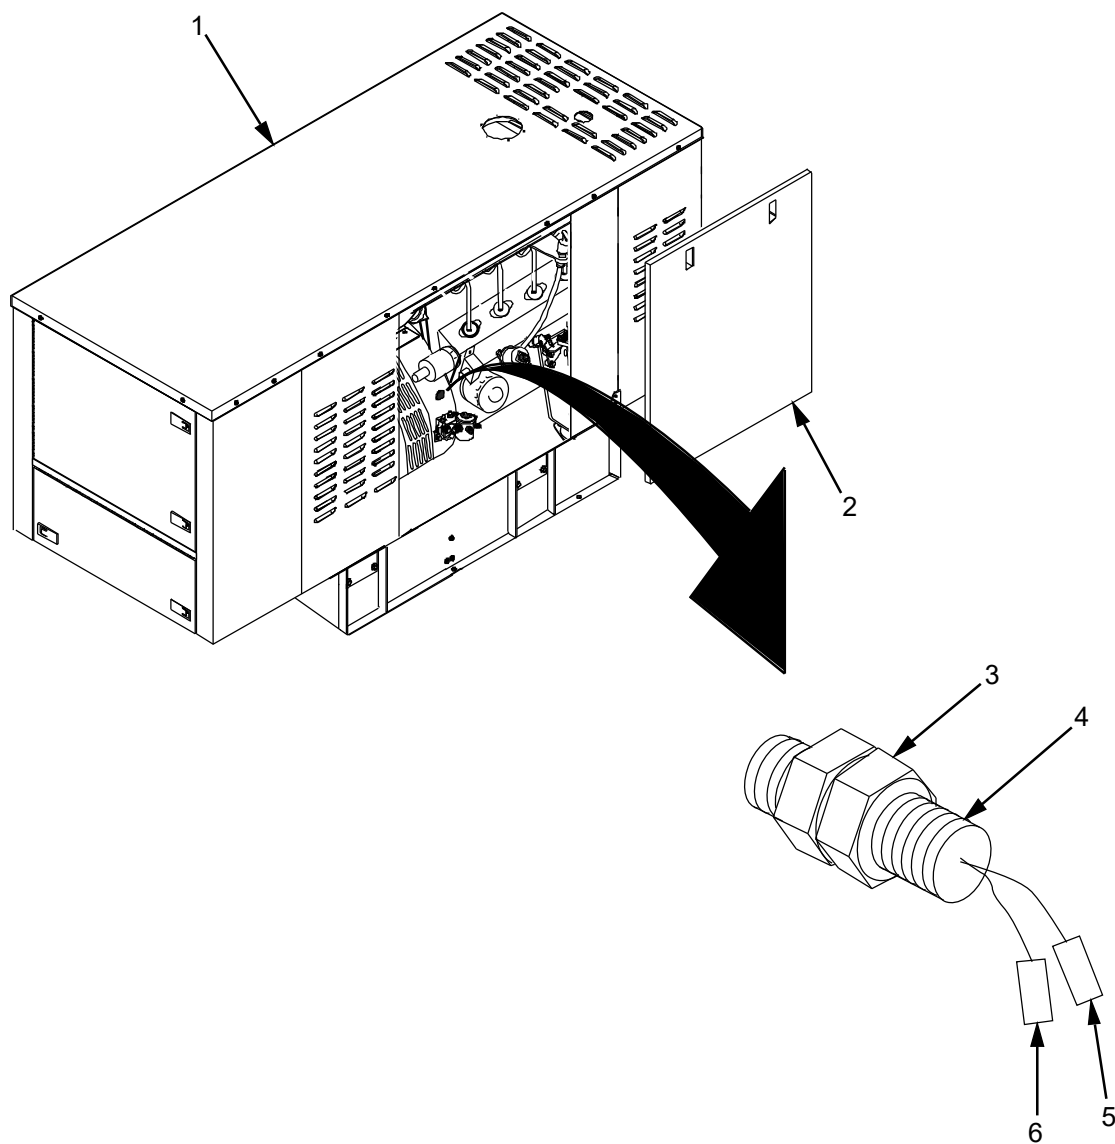

Figure 1. Diesel Speed Sensor Removal/Replacement.
Do not get anti-seize compound on ends of diesel speed sensor (Figure 1, Item 4).
2. Apply anti-seize compound to threads of diesel speed sensor (Figure 1, Item 4).
When the following step is being performed, diesel speed sensor (Figure 1, Item 4) should screw in without resistance. Do not force diesel speed sensor (Figure 1, Item 4) or cross thread. Failure to observe this caution can result in damage to the engine.
3. Install diesel speed sensor (Figure 1, Item 4). Tighten until diesel speed sensor (Figure 1, Item 4) bottoms out.
Failure to back diesel speed sensor (Figure 1, Item 4) off 1/4 turn can result in magnetic pickup on diesel speed sensor (Figure 1, Item 4) striking the fly wheel and becoming damaged thus making it unserviceable.
Backing diesel speed sensor (Figure 1, Item 4) off more than 1/4 turn can prevent magnetic pickup on diesel speed sensor (Figure 1, Item 4) from detecting the rotation of the fly wheel.
4. Turn diesel speed sensor (Figure 1, Item 4) back counter clockwise 1/4 turn.
5. Tighten locking nut (Figure 1, Item 3) (clockwise).
6. Connect two terminals (Figure 1, Items 5 and 6) coming off of diesel speed sensor (Figure 1, Item 4) to engine harness.
8. Install rear access panel (Figure 1, Item 2).